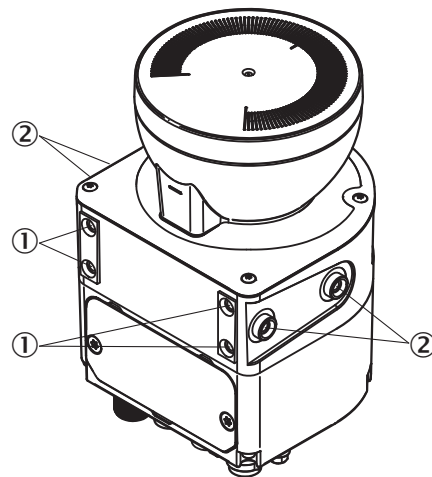

Figure 48: Mounting the safety laser scanner directly
- ① Rear M5 threaded hole
- ② Side M5 threaded hole
- ▶ Use either the rear or the side M5 threaded holes for direct mounting, see figure 48, page 65.